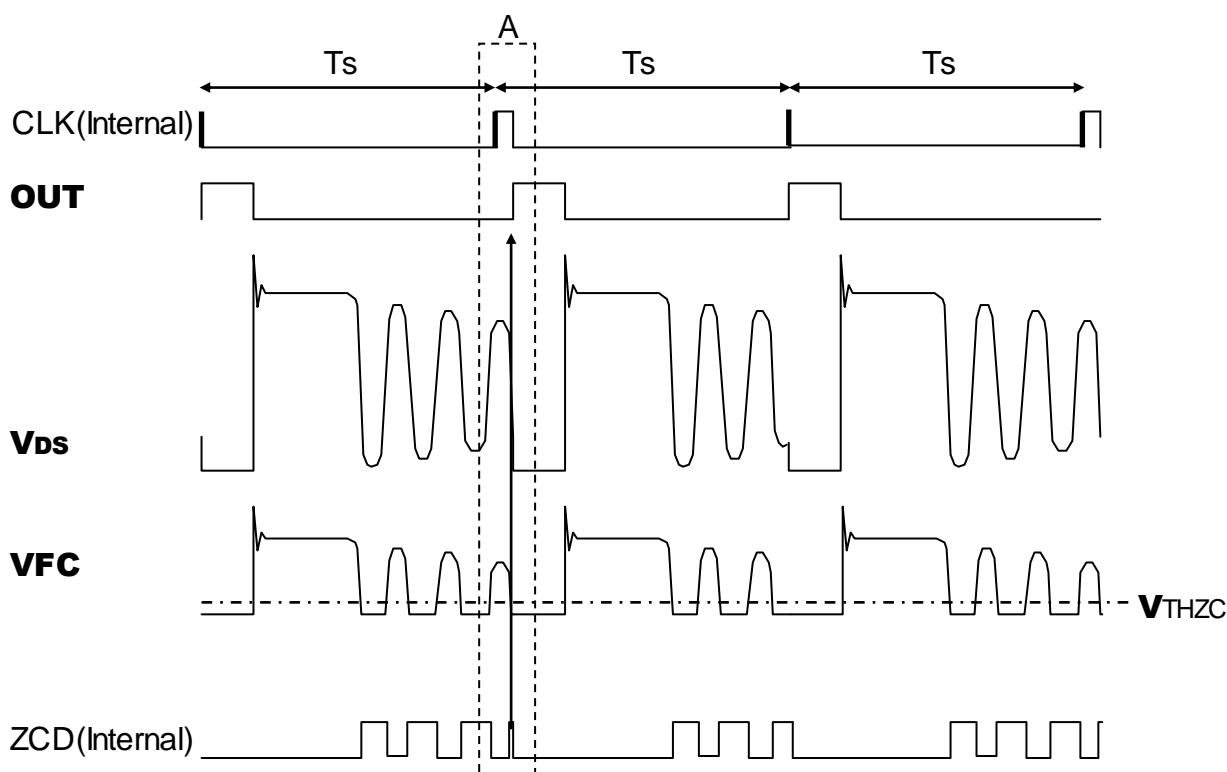

Figure 8. Bottom voltage detection (V_{THZC})
Figure 8 shows the schematic of bottom voltage detection on the VFC pin.
- ① If internal CLK rises while the OUT pin is V_{OUTH} level, the CLK will not be maintained.
- ② TBLANK period (700ns, design value) immediately after the OUT pin becomes V_{OUTL} level, ZCD(Internal) shown in Figure 8 is held as low level and V_{THZC} detection on the VFC pin is disabled.